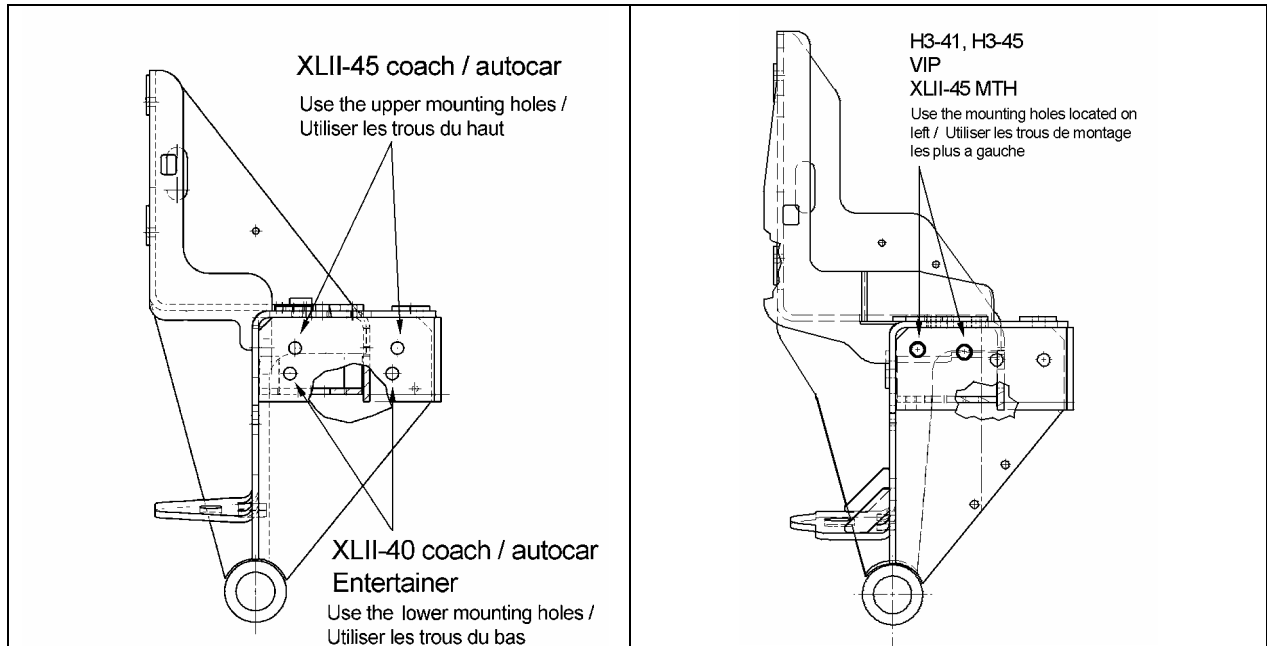
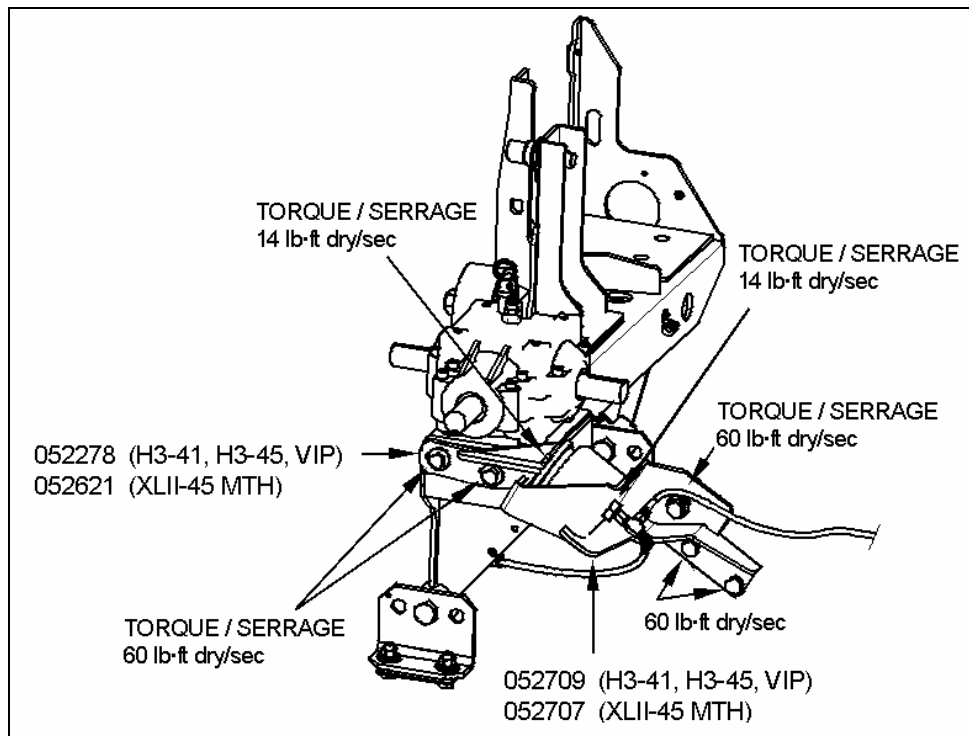

FIGURE 4 : MOUNTING HOLES
FIGURE 5: H3-41, H3-45, VIP & XLII-45 MTH
2. Disconnect the air lines and fittings from the bellows (figure 5 & 6).
5. Reinstall the bellows with the new attachment brackets. For mounting of the gearbox side attachment bracket, use the mounting holes indicated on figure 4. Tighten bolts as specified in figure 5 & 6.